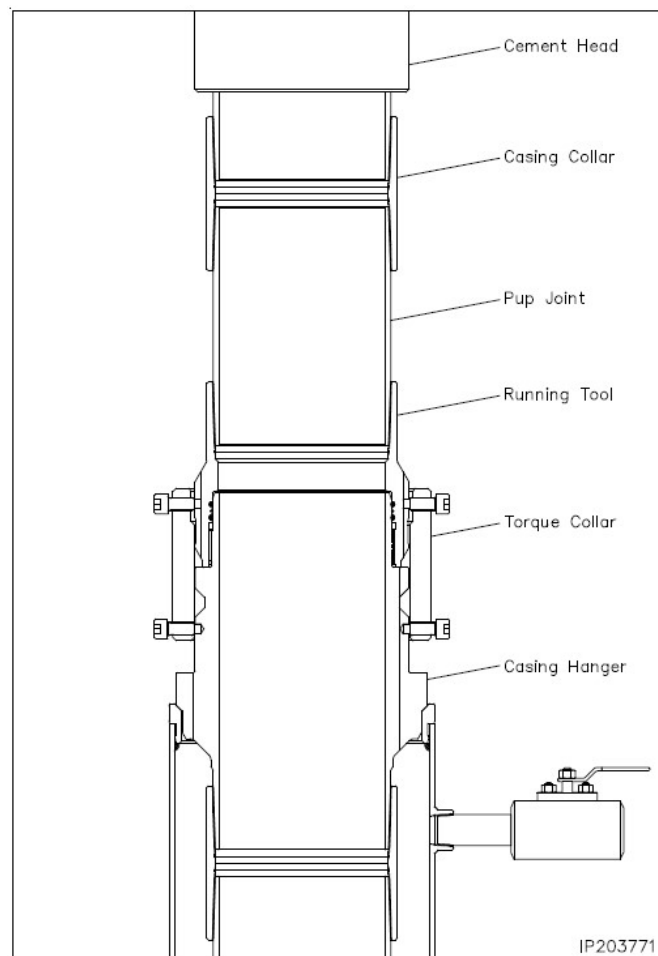

Figure 1. Cactus 13 3/8" 5M offline cementing tool. Pressure rating limited by the lesser of 5M tool rating or the 13 3/8" pup joint and casing.
9. Make up offline cement tool with forklift per wellhead manufacturer (Fig. 1 & 2).